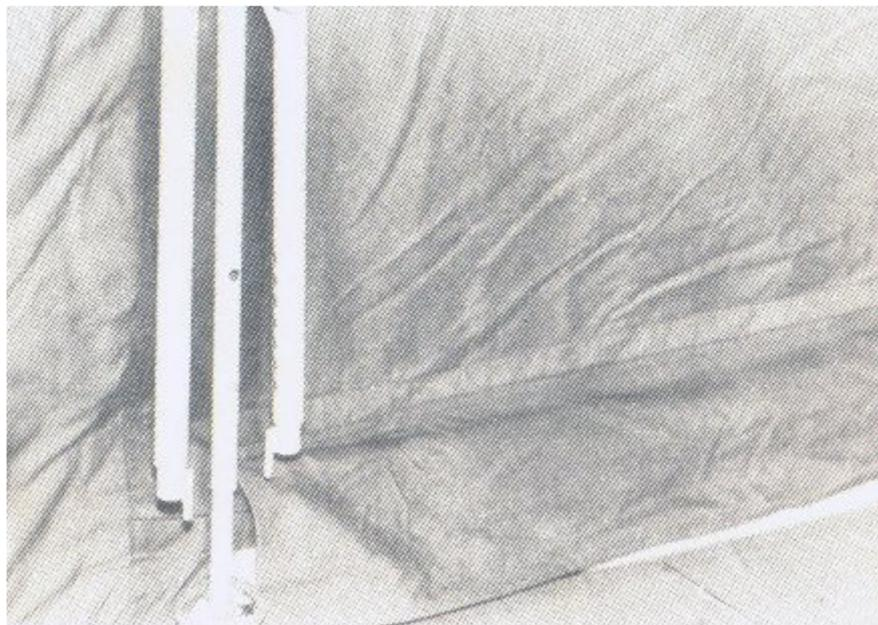

Fig. 14
4.5.5 That in fig. 14 recognizable agile fortified to the Mittelspiegel telescope bar linkages are waved to the head assembly and/or boron plate graphite iron, taken off and put into the available drilling. In this way the tent-roof is spread out to both pages evenly tightly.